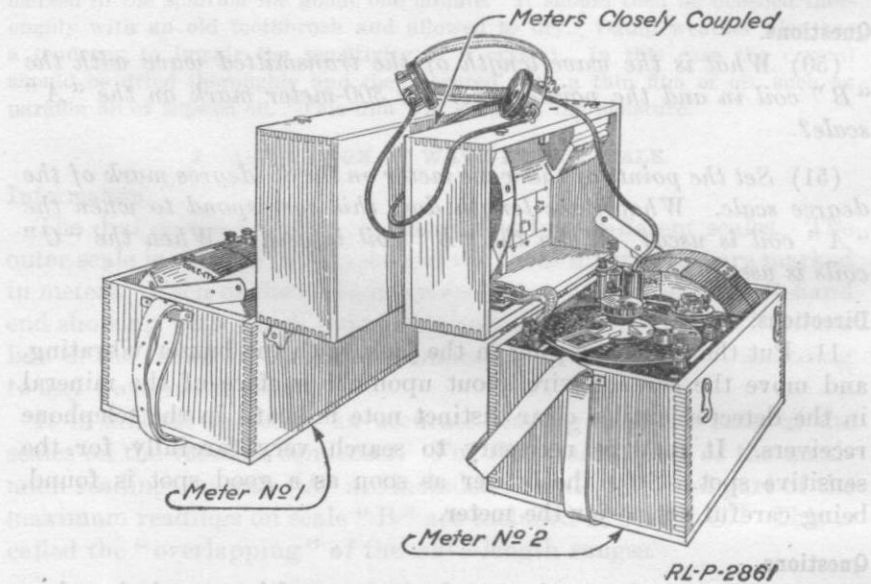

Fig. 26.—Method of obtaining close coupling between two SCR-61 wave meters.
13. Open the two wave meters and put a coil A in each one. Start the buzzer on the receiver (No. 2) and carefully adjust the detector. Now put the No. 2 meter close to the No. 1 meter with their lids back to back. (See Figs. 26 and 27.) Test the detector again and see if it is still in adjustment. The meters placed in this way are said to be closely coupled and the effect of the No. 1 meter should be felt very strongly on No. 2 meter. Now start the buzzer to vibrating